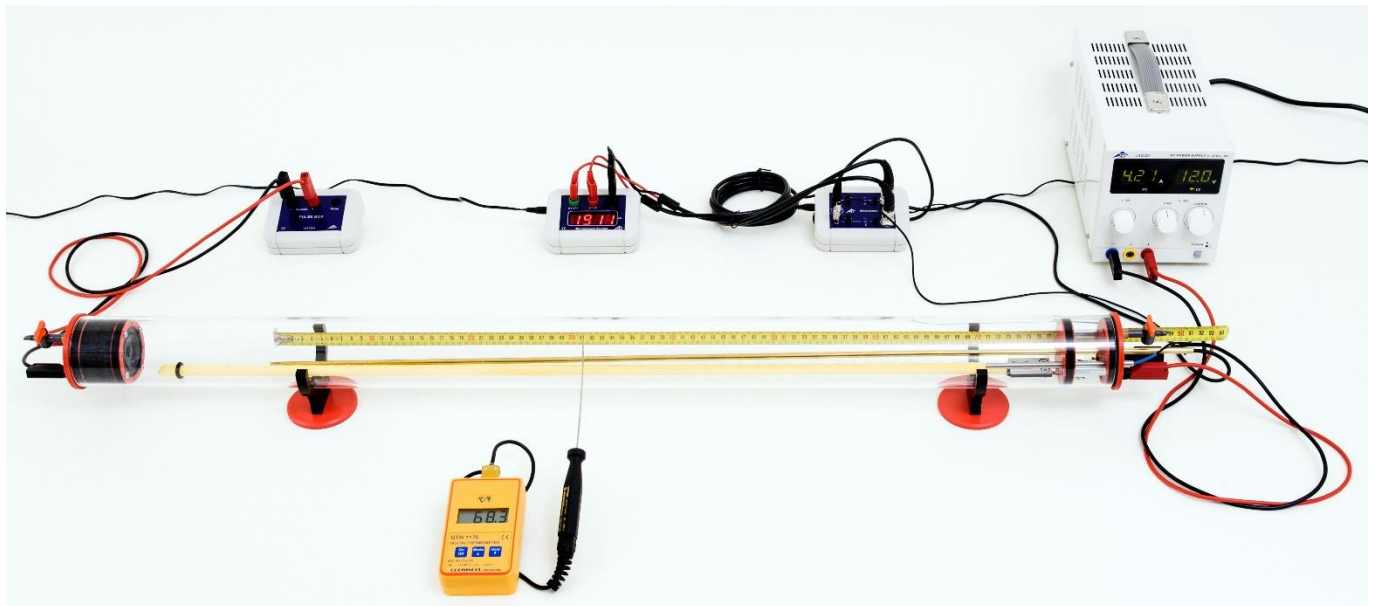

Fig. 1: Measurement set-up.
- Set up the sound tube on the supplied feet (Fig. 1).